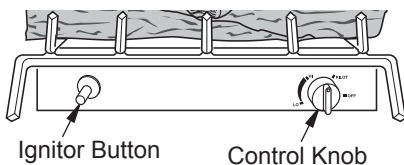

Figure 26 - Control Knob and Ignitor Button Location
4. Wait five (5) minutes to clear out any gas. Then smell for gas, including near the floor. If you smell gas, STOP! Follow “B” in the safety information on page 18. If you don’t smell gas, go to the next step.
5. Press in control knob and turn counter-clockwise ↺ to the PILOT position. Keep control knob pressed in for five (5) seconds (see Figure 26).